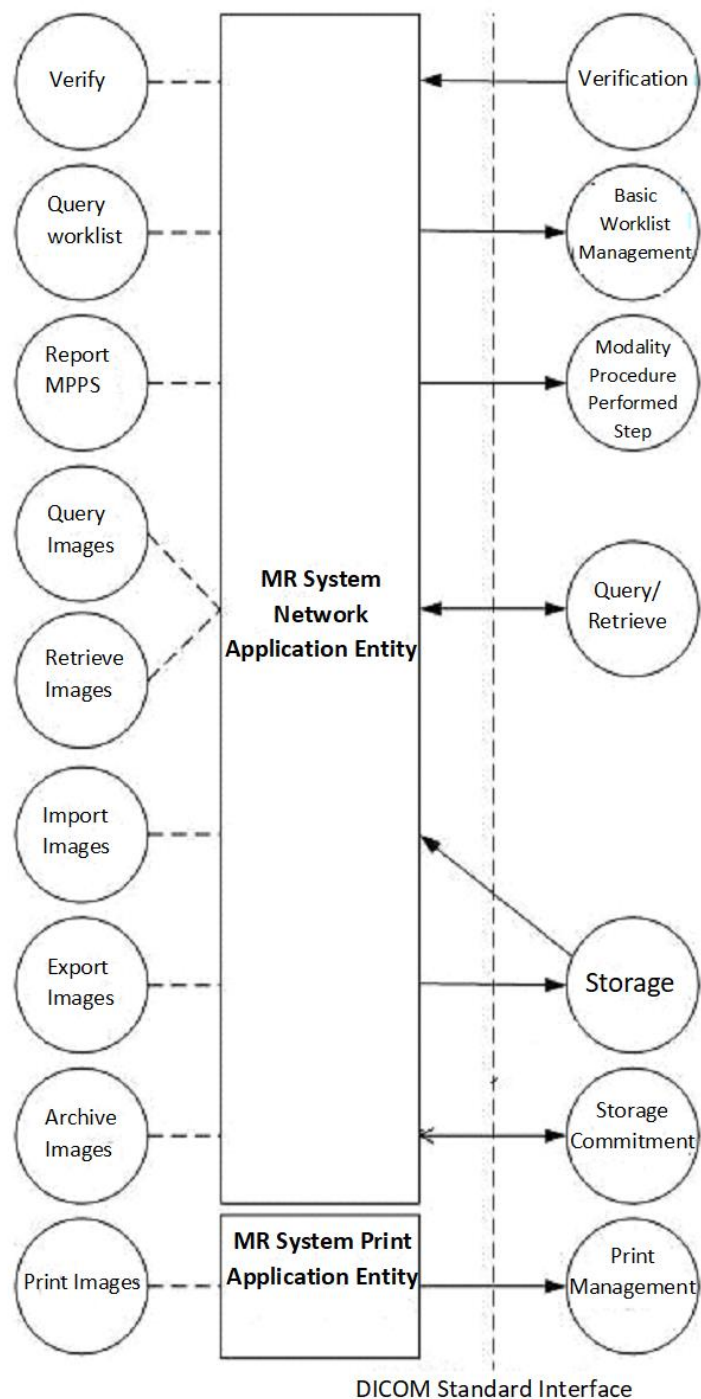

Figure 2: MR System AE Data Flow Diagram
The MR System incorporates two networking Application Entities (AE). The related networking application data flow as a functional overview of the MR system is shown in Figure 2.